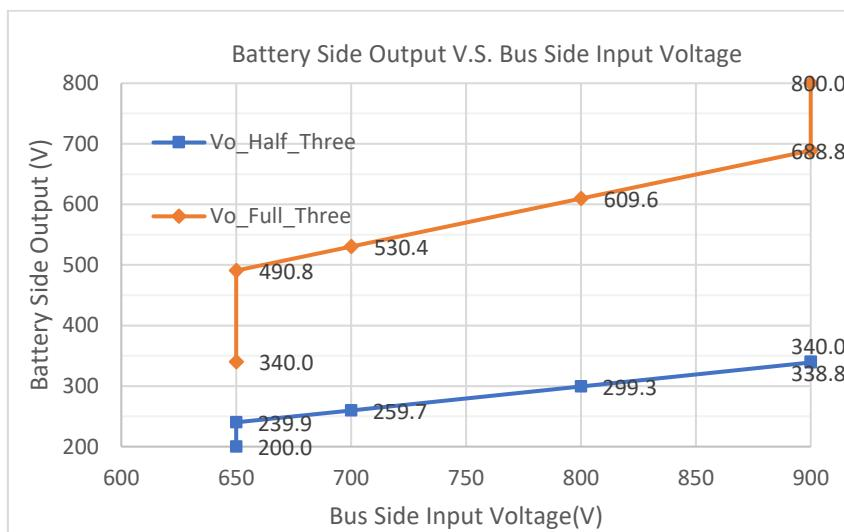
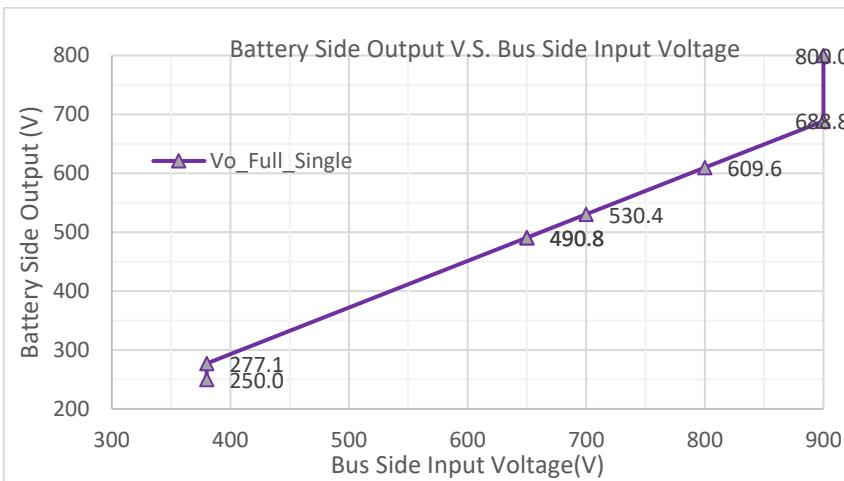
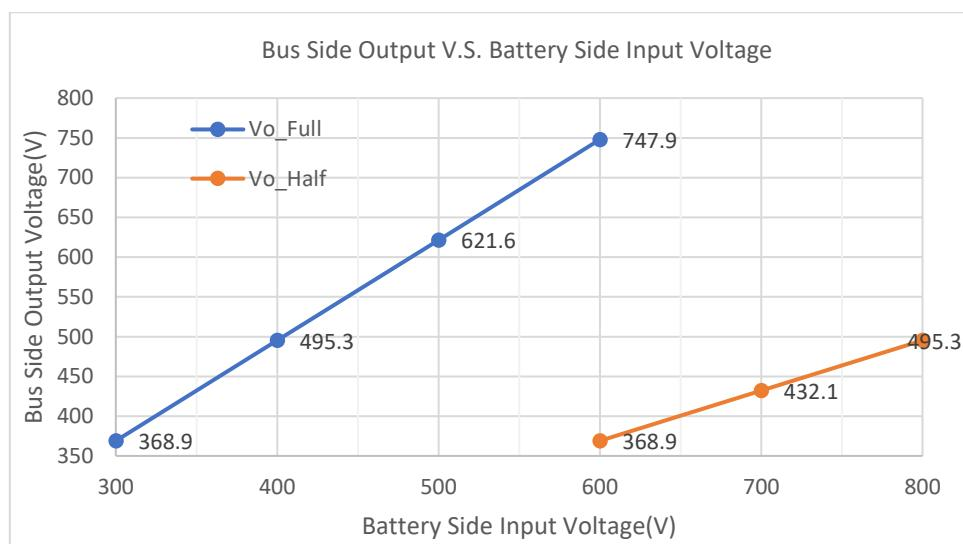

Figure 2a. Battery Voltage V.S. Bus Voltage in Charging Mode for Three-Phase Application
Figure 2b. Battery Voltage V.S. Bus Voltage in Charging Mode for Single-Phase Application
Figure 3: Bus Voltage V.S. Battery Voltage in Discharging Mode
The operation range of the evaluation board in charging mode is as shown in Table 1. The evaluation board is designed to support the DC bus voltage of a PFC (Power Factor Correction) with both single-phase input and three phase input. In a typical application, the bus voltage is regulated by the PFC stage according to the battery side voltage. However, with a controlled PFC output, the output voltage at battery side is regulated to maintain the same relation curve as shown in Figure 2a and 2b. This is to simulate the real conditions in the application. The equation is "Vdc2=(Vdc1-30Volts) \*19/24" for full bridge and "Vdc2=(Vdc1-44Volts) \*19/24/2" for half bridge. The start-up voltage is calculated by using the same equations. The output
For discharging mode, the overall discharging operations are shown in Table 2. The output bus voltage is regulated, as shown in Figure 3, to enable high efficiency for both CLLC stage and DC/AC stages. The equation is “ $V_{dc1}=V_{dc2}*24/19-10$ Volts” for full bridge and “ $V_{dc1}=V_{dc2}*24/19/2-10$ Volts” for half bridge. The start-up voltage is also calculated using the same equations.
**A user should follow the operations as shown in Figure 2a, Figure 2b and Figure 3 and not overload the converter out of the SOA (Safe Operation Area).** Please refer to Table 8 in Section 6.2 of this User’s Guide for protection details.
A GUI communicates to the unit via a controller area network (CAN) communication bus. It is used to display operational information and provide related user controls, such as the selection of power direction and topology. The output voltage and/or current with 380Vdc, 650Vdc and 900Vdc input can all be set according to Figure 2a and Figure 2b through CAN interface in charging mode. The output voltage is calculated based on the input DC voltage to enable high efficiency for other inputs in charging mode, or any inputs in discharging mode.